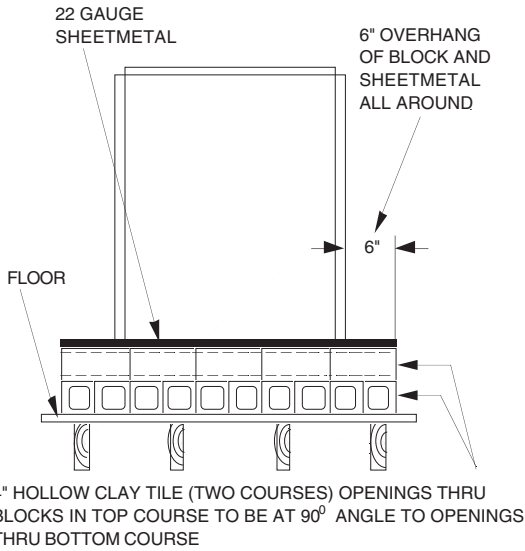

FIGURE 1.2A
2. Install boiler on non-combustible flooring only, unless local codes permit use and fabrication of a recommended fireproof base (see Figure 1.2A).